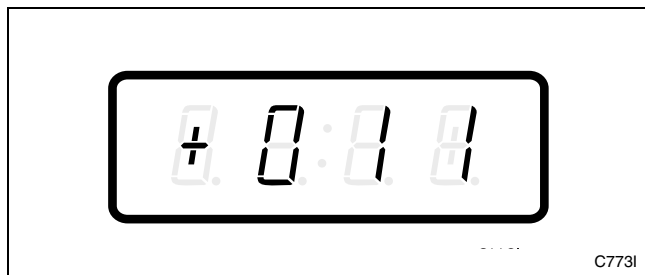

Figure 49
3. Press the LOW TEMP (+) or the NO HEAT (-) keypad to scroll through the programmable options until “+011” appears in the VFD. Refer to *Figure 49*.